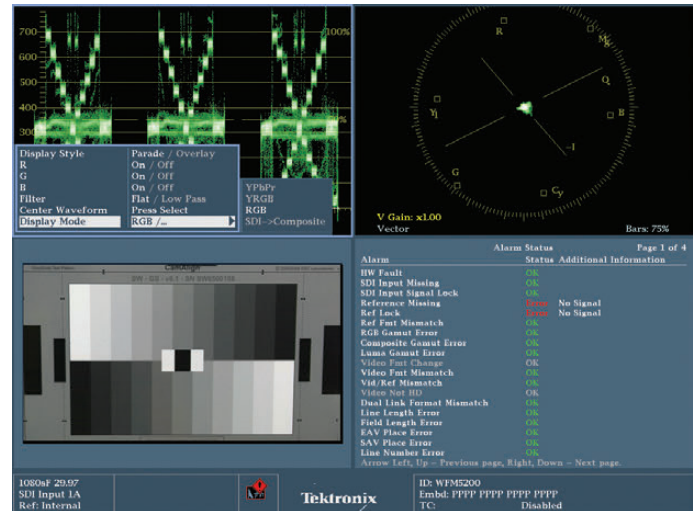

Figure 6-4. The steps 1-4 of “Creating a Preset” end with recalling and editing the options for the Waveform monitor menu.
4. To customize the type of waveform monitor to an RGB Parade, hold down the WFM button for two seconds. A dialog box will offer choices of Display Style, YRGB, Filter, Center Waveform and Display Mode. With Display Style selected (white selection box), use the right arrow key to toggle between Parade and Overlay, leaving the selection on Parade. Use the General dial or the down arrow to scroll to the bottom, selecting Display Mode. Use the right arrow to move over to the Display mode options of YPbPr, YRGB, RGB, or SDI Composite. Use the up and down arrow keys to select the RGB option (or YRGB if you prefer). Use the left arrow to move back to the Display Mode selection. The R, G, and B menu choices should all be set to “On.” If not, use the arrow keys to navigate to those menu choices and toggle them on. Don’t worry about the other options (Figure 6-4).